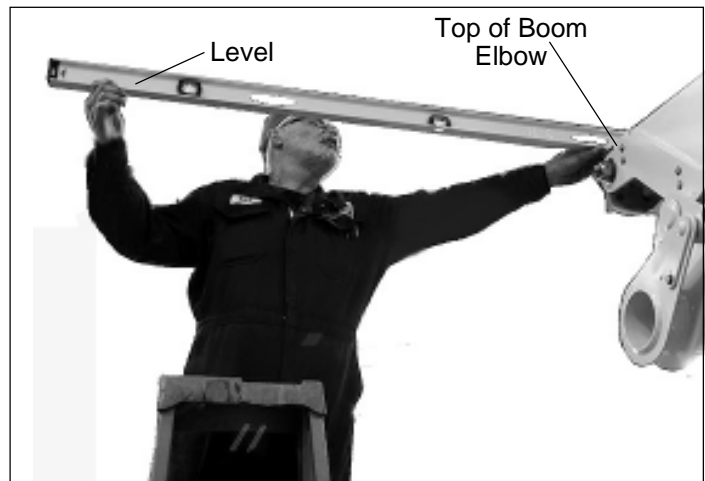

Figure 1— Positioning The Ladder and Level
2. Position the step ladder next to the side of the chassis. Place one end of the level on the top of the boom elbow (refer to Figure 1).